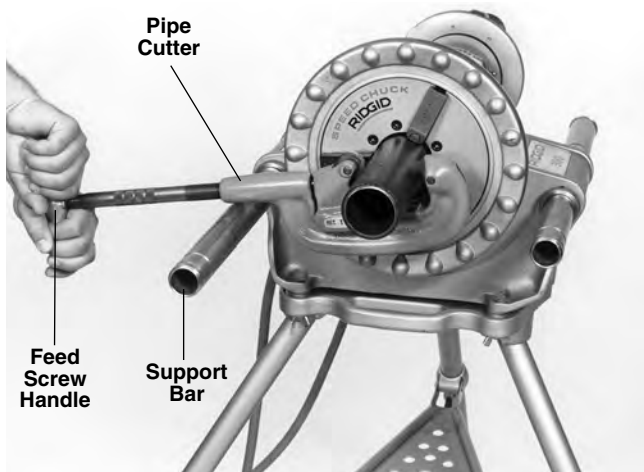

Figure 5 – Cutting Pipe with Hand Cutter
2. Align the cutter wheels with the mark on the pipe and rest the pipe cutter’s body on the left support bar (*Figure 5*). Hand-tighten the pipe cutter to the workpiece using the feedscrew handle while keeping the cutter wheels aligned with the mark.
5. Grasp the pipe cutter's feedscrew handle with both hands (*Figure 5*) and depress and hold down the foot switch with the left foot.